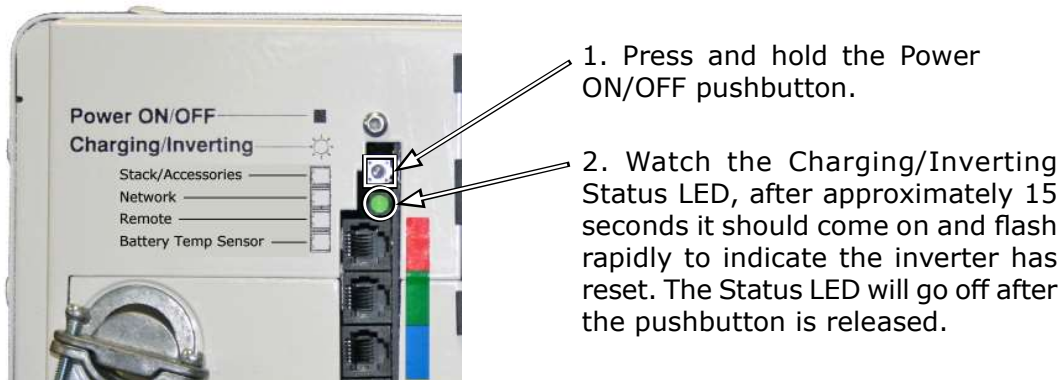

Figure 4-1, Performing an Inverter Reset
1. Press and hold the Power ON/OFF pushbutton (see Figure 4-1) for approximately fifteen (15) seconds until the Charging/Inverting Status LED comes on and flashes rapidly.